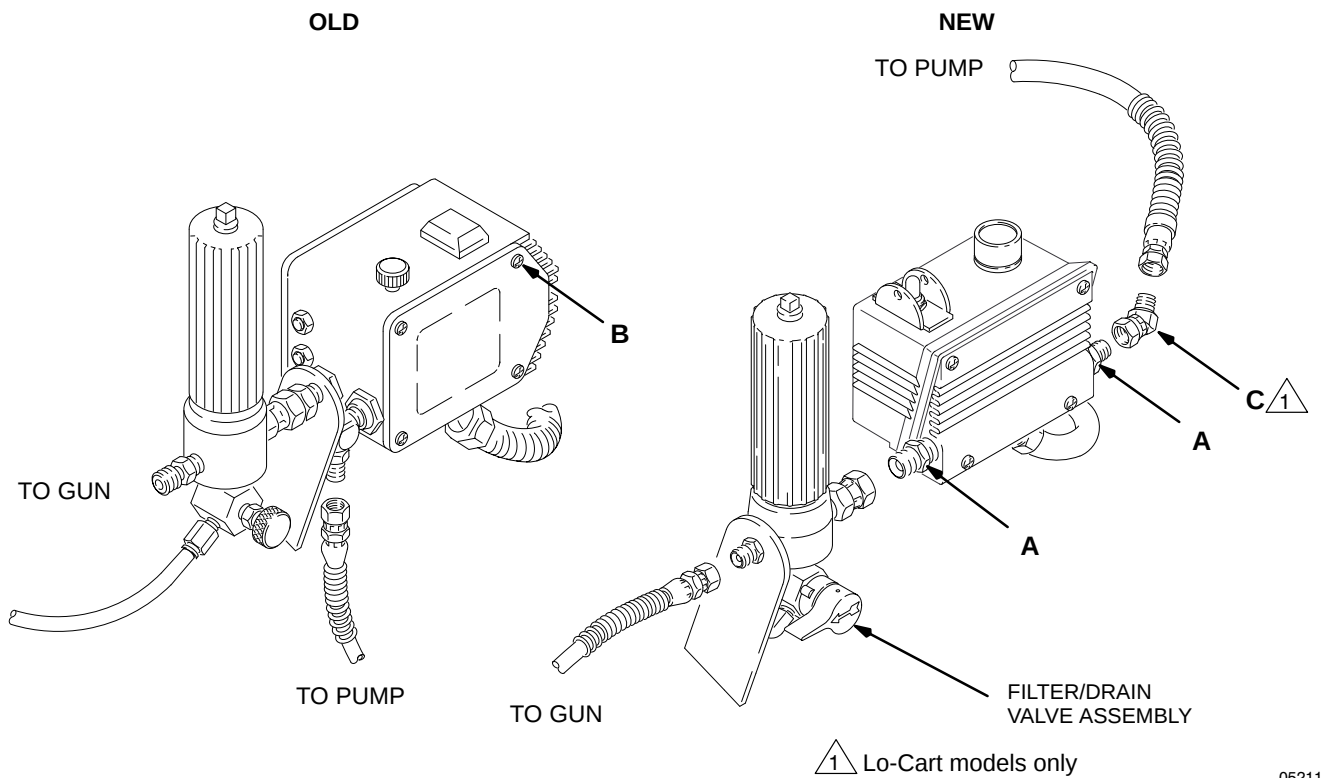

Fig. 1
2. See Fig. 1. Disconnect the filter/drain valve assembly and the pump supply hose at the pressure control.
3. See Fig. 1. Remove the four mounting screws (B) from the pressure control cover and remove the pressure control cover.
9. See Fig. 1. Install the pump outlet hose to the male end of the 1/4 45° swivel union (C). Go to step 11.